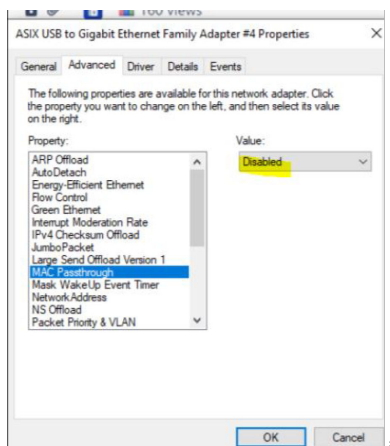

Figure 185. Modify Adapter Property for MAC Passthrough
4. Check the network adapter used and whether it has a property MAC passthrough enabled. This may cause it to pick up a different MAC address and interfere with ability of the GUI to communicate with the switch. Disable this property for the adapter, see Figure 185 and restart the GUI.